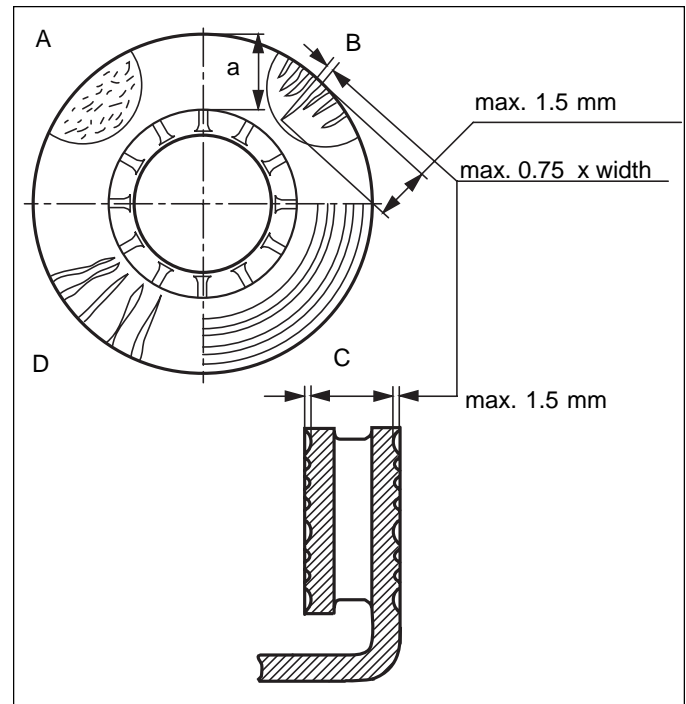

Figure 5 - Rotor Inspection
3. Check rotor for grooves and cracks (Figure 5).